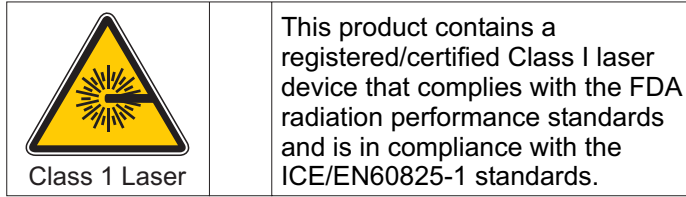

Figure 3. Class 1 laser label
3. Class 1 laser label. See Figure 3 on page xxii.